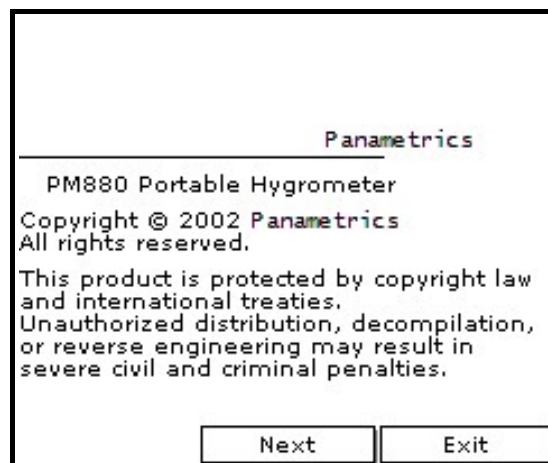

Figure 32: About Window
3. Use the arrow key to scroll to About and press **[ENTER]**. A screen similar to Figure 32 appears.